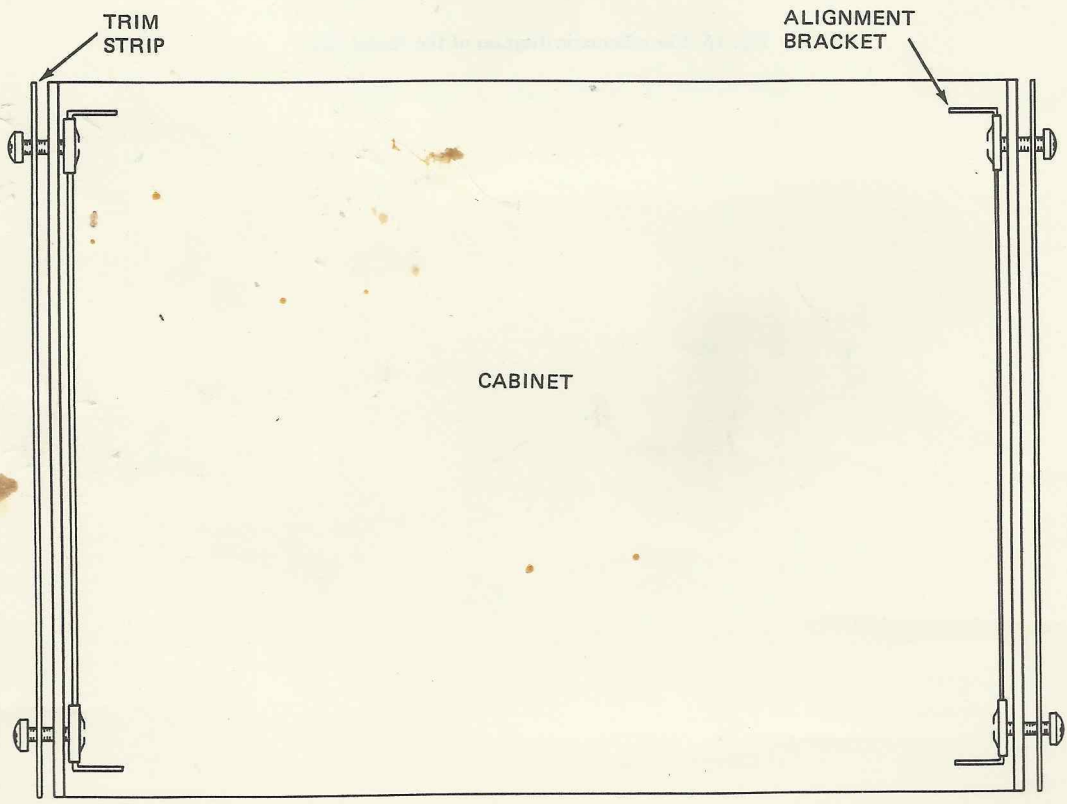

Fig. 14. Mounting the trim strips and the alignment brackets on the cabinet bottom.
(3) Next, locate two of the black Phillips head 8-32 screws. Put the screws through the two holes on one side of the black trim strip, and through the holes in the cabinet half on which you mounted the feet. Then screw them into the Tinnerman nuts on the cabinet aligning brackets as shown in Fig. 14. Do not tighten the screws. Do the same thing with the second cabinet trim strip and alignment bracket on the other side of the cabinet bottom (✓)
(4) Now carefully lift the power supply and lower it inside the cabinet bottom so that the alignment brackets are on the inside of the front and back panels (✓)
(5) Now take the top cabinet half and place it over the top of the power supply, aligning the holes with the holes in the black trim strips. Secure it to the lower cabinet assembly with four 8-32 black Phillips head screws (✓)
(6) Tighten all eight of the black Phillips head screws (✓)